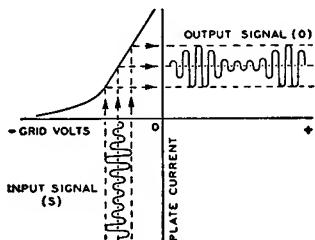

Fig. 14
grid, but their amplitude is increased. This increase is accomplished by operating the tube at a suitable grid bias so that the applied grid input voltage produces plate-current variations proportional to the signal swings. Because the voltage variation obtained in the plate circuit is much larger than that required to swing the grid, amplification of the signal is obtained. Fig. 14 gives a graphical illustration of this method of amplification and shows, by means of the grid-voltage vs. plate-current characteristics curve, the effect of an input signal (S) applied to the grid of a tube. O is the resulting amplified plate-current variation.